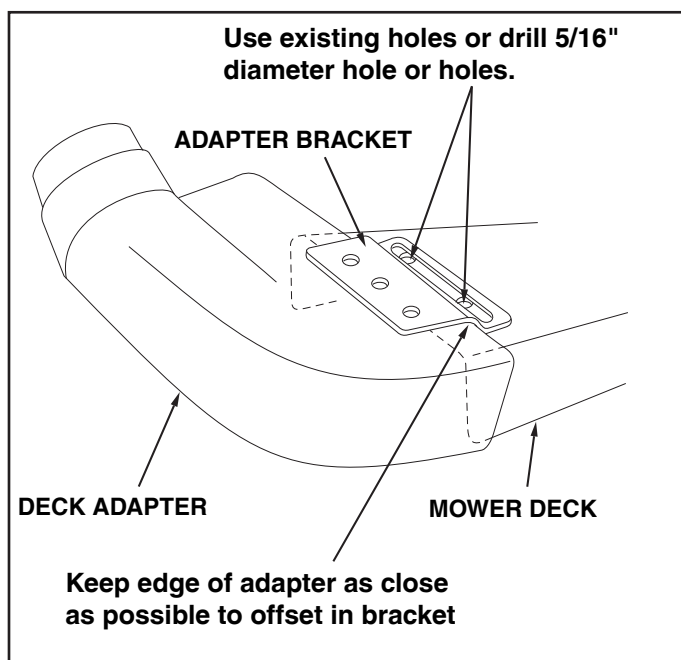

FIGURE 13
- Holding the adapter bracket and the deck adapter together, position the deck adapter on the mower deck. Keeping the edge of deck adapter as close as possible to the offset in the adapter bracket, see if the slot in the adapter bracket can be aligned with one or two of the deflector holes in your mower deck's discharge opening. If the bracket can not be located correctly using existing holes, it will be necessary to drill one or two 5/16" diameter holes in the deck. See figure 13.